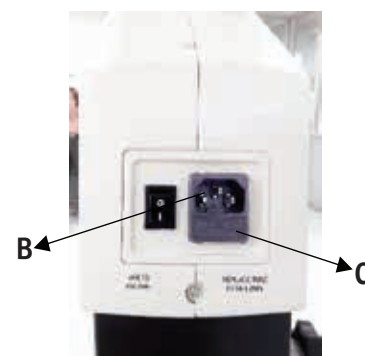

Fig. 13
- Locate the fuse at the AC inlet (B) as shown in Fig.13.
- Use a flat head screw driver to open the fuse compartment (C). Two fuses are provided: one is a live fuse and the second is a spare fuse.